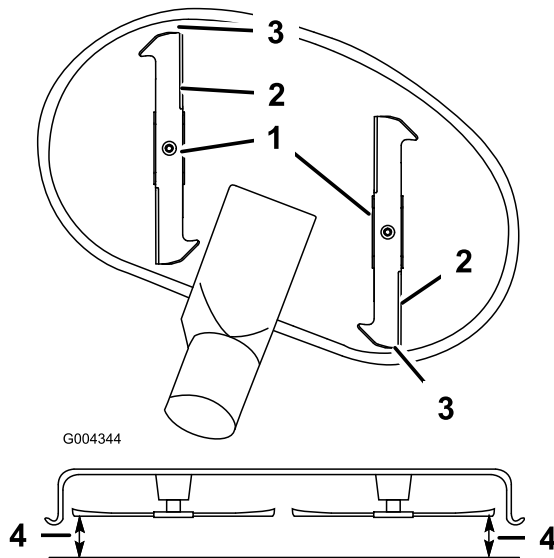

Figure 56
- Set the height-of-cut at position **D** [3 inch (76 mm)] and carefully rotate the blades so they are facing front to rear (Figure 56).
10. Measure from the tip of the front blade to the flat surface and the tip of the rear blade to the flat surface (Figure 56). If the front blade tip is not 1/16-5/16 inch (1.6-7.9 mm) lower than the rear blade tip, adjust the front locknuts.